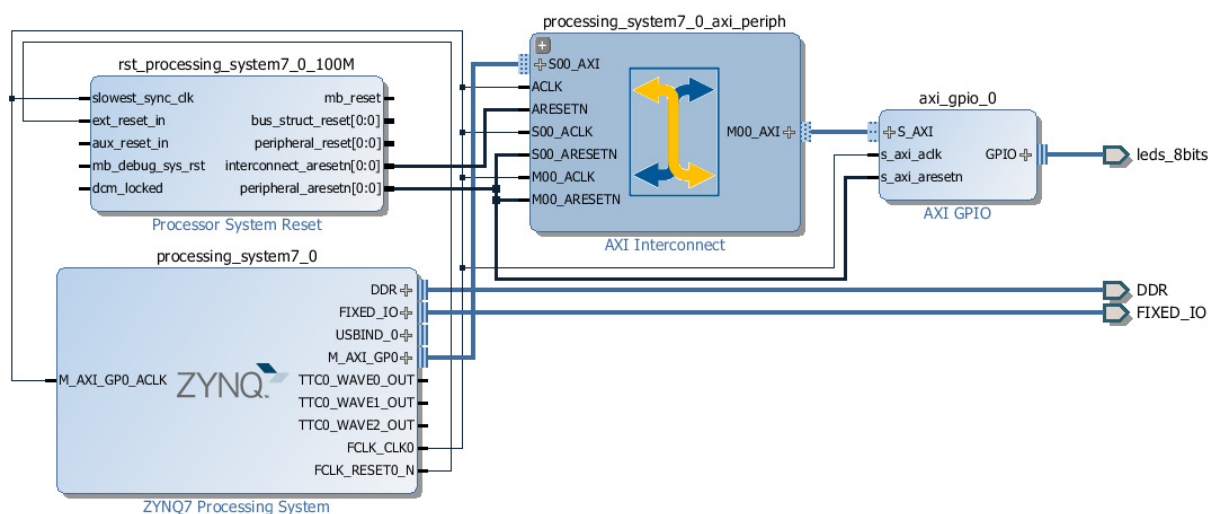

Figure 1.17: Zynq Processor System
- (i) Click the *Regenerate Layout* button to tidy up the design schematic. Your complete design should resemble Figure 1.17.
The positions of the individual IP blocks in your design may vary slightly from Figure 1.17, but the blocks and their connections should be the same.